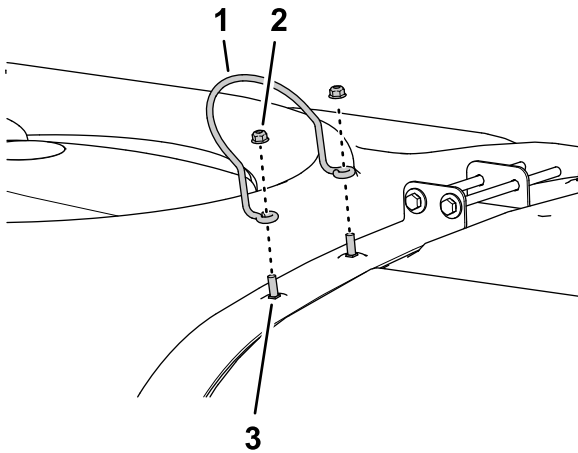

Figure 12
1. Remove the 2 flange locknuts securing the tank-lid stop to the 2 carriage bolts at the rear strap of the sprayer tank, and remove the tank-lid stop (Figure 12).